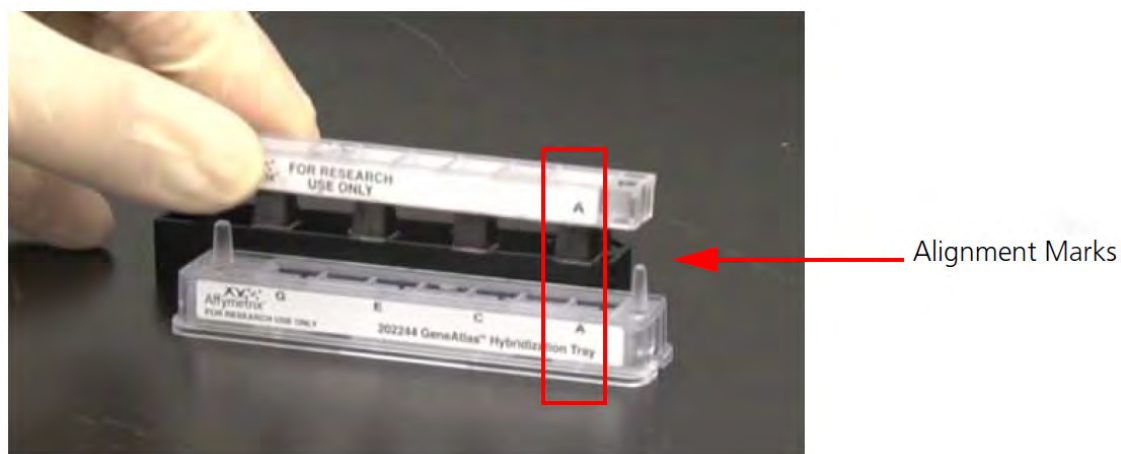
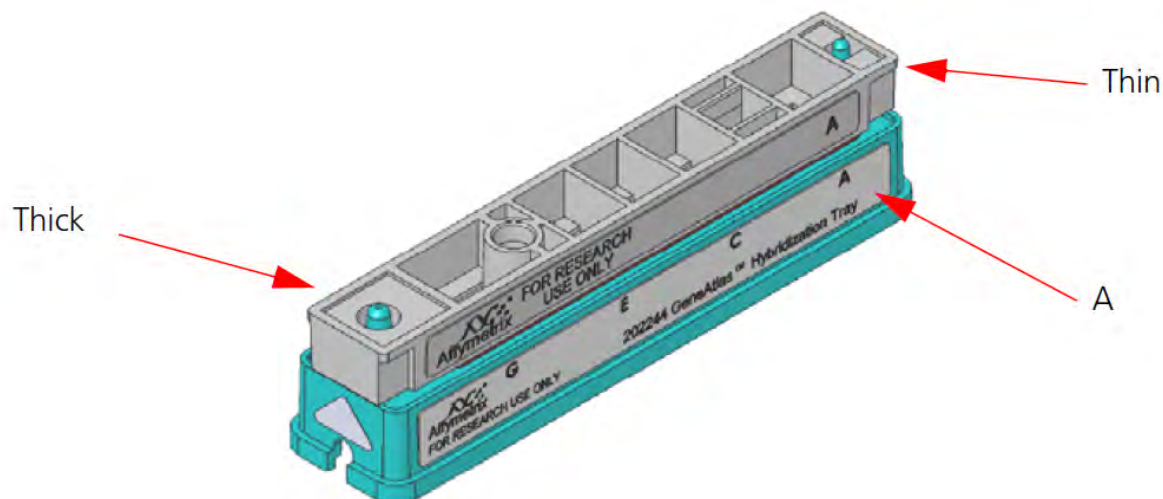

Figure 5 Placing the array strip into the hybridization tray.
Figure 6 Proper orientation of the array strip in the hybridization tray.
- c. Place the array strip into the hybridization tray containing the Hybridization Cocktail samples (Figure 5). See Figure 6 for proper orientation of the array strip in the hybridization tray.